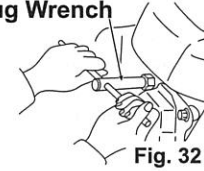
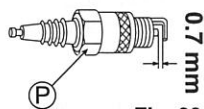

Fig. 32
Fig. 33
- Remove Ignition plug (P) with the attached plug wrench. (See Fig. 32)
- Exchange Ignition plug (P) if a great amount of carbon is adhered to it or its insulator is cracked or damaged.
- Remove the carbon adhered to the electrode, and adjust the electrode clearance to 0.7 mm. (See Fig. 33)
- Install Ignition plug (P) and Plug cap (Q).